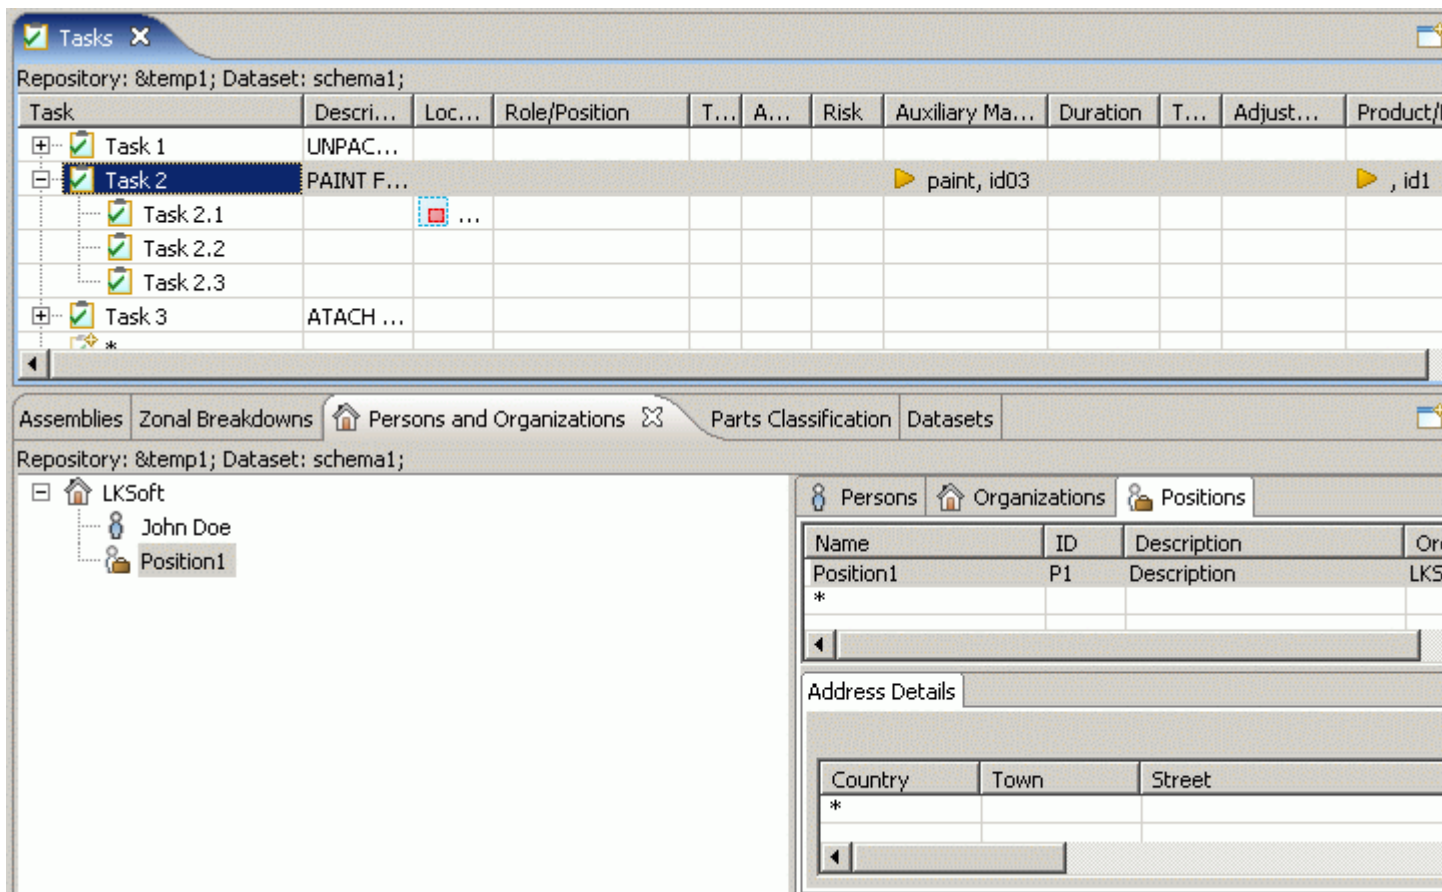

Figure 1. Tasks and Persons and Organizations windows in TDE
- Ensure that  Tasks and  Persons and Organizations windows are opened (see Figure 1).
- Click on an applicable position in the organizations tree (on the left side of the **Persons and Organizations** window) or in a table of the **Positions** tabbed panel (on the right of the **Persons and Organizations** window). The selected object is highlighted in the tree and in the table list (see Figure 1).